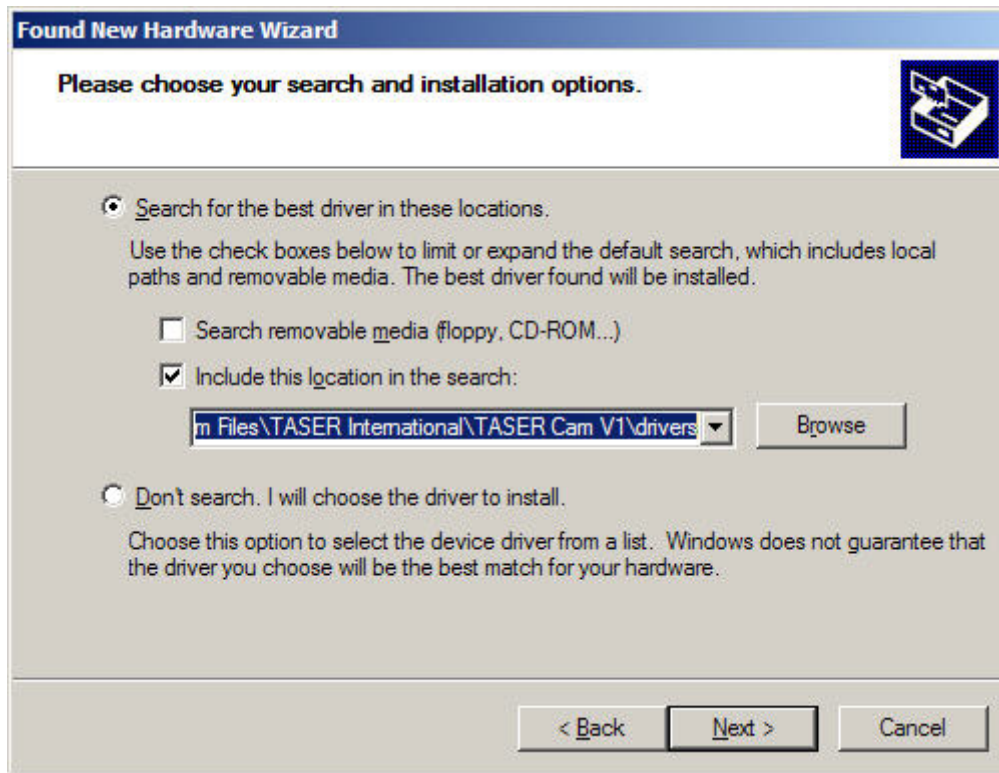

Figure 8
7. Select **Search for the best driver in these locations** and select **Include this location in the search** (Figure 8). The location should be c:\Program Files\TASER International\TASER CAM V1\drivers. You may browse to this location or type it directly into the location box.